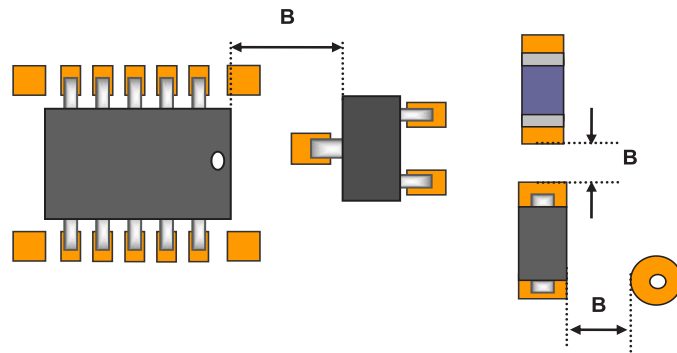

Figure 57: Layout of components of different types and PCB structures.
- For different component types, the solder pad edge spacing should be $\geq 1.0\text{mm}$. Distance requirements are shown in Figure 57 and Table 4.